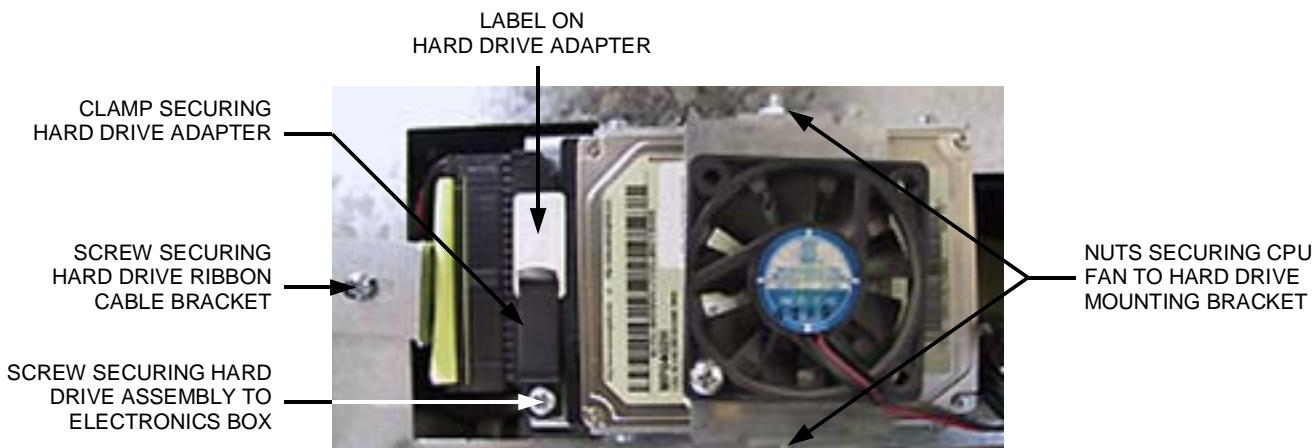

FIGURE 5 - QUICK-CLICK HARD DRIVE ASSEMBLY ON ELECTRONICS BOX
4. Loosen the screw on the hard drive support bracket and disconnect the hard drive adapter, with the attached ribbon cable, from the hard drive (see Figure 5). Then, separate the hard drive adapter from the ribbon cable and 2-pin power cable. This hard drive adapter will not be reused.
6. Separate the CPU fan mounting plate from the hard drive mounting bracket by removing the 2 nuts (see Figure 5).
1. Reattach the CPU fan mounting plate to the supplied hard drive assembly with the 2 existing nuts (see Figure 5).
2. Attach the 2-pin power cable in the game to the new hard drive adapter, which comes attached to the new hard drive. Do so by locating the two stand-alone pins on the hard drive adapter, and then sliding the 2-pin adapter onto these pins (for help, see the label on the hard drive adapter - see Figure 5). Note: The black wire on the power cord MUST be facing toward the label side of the hard drive adapter. Failure to do so could result in a damaged hard drive.
4. Slide the hard drive assembly into place on the electronics box cover. Align the hole in the mounting bracket with the hole on the mounting plate, then secure the supplied screw, washer, and clamp to the mounting plate (see Figure 5). The clamp should rest on the hard drive adapter, holding it in place when screwed in tightly.
5. Secure the ribbon cable in place with the hard drive support bracket and tighten the screw (see Figure 5).